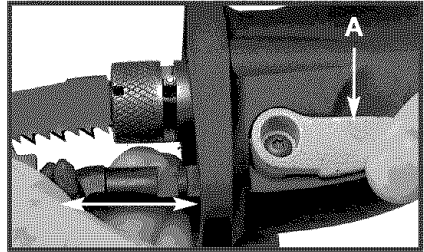

Fig. 12
Adjust to one of the four positions and close lever (A) **Fig. 12**. After adjusting, make sure the locking lever is completely closed in the locked position (A) **Fig. 12**.